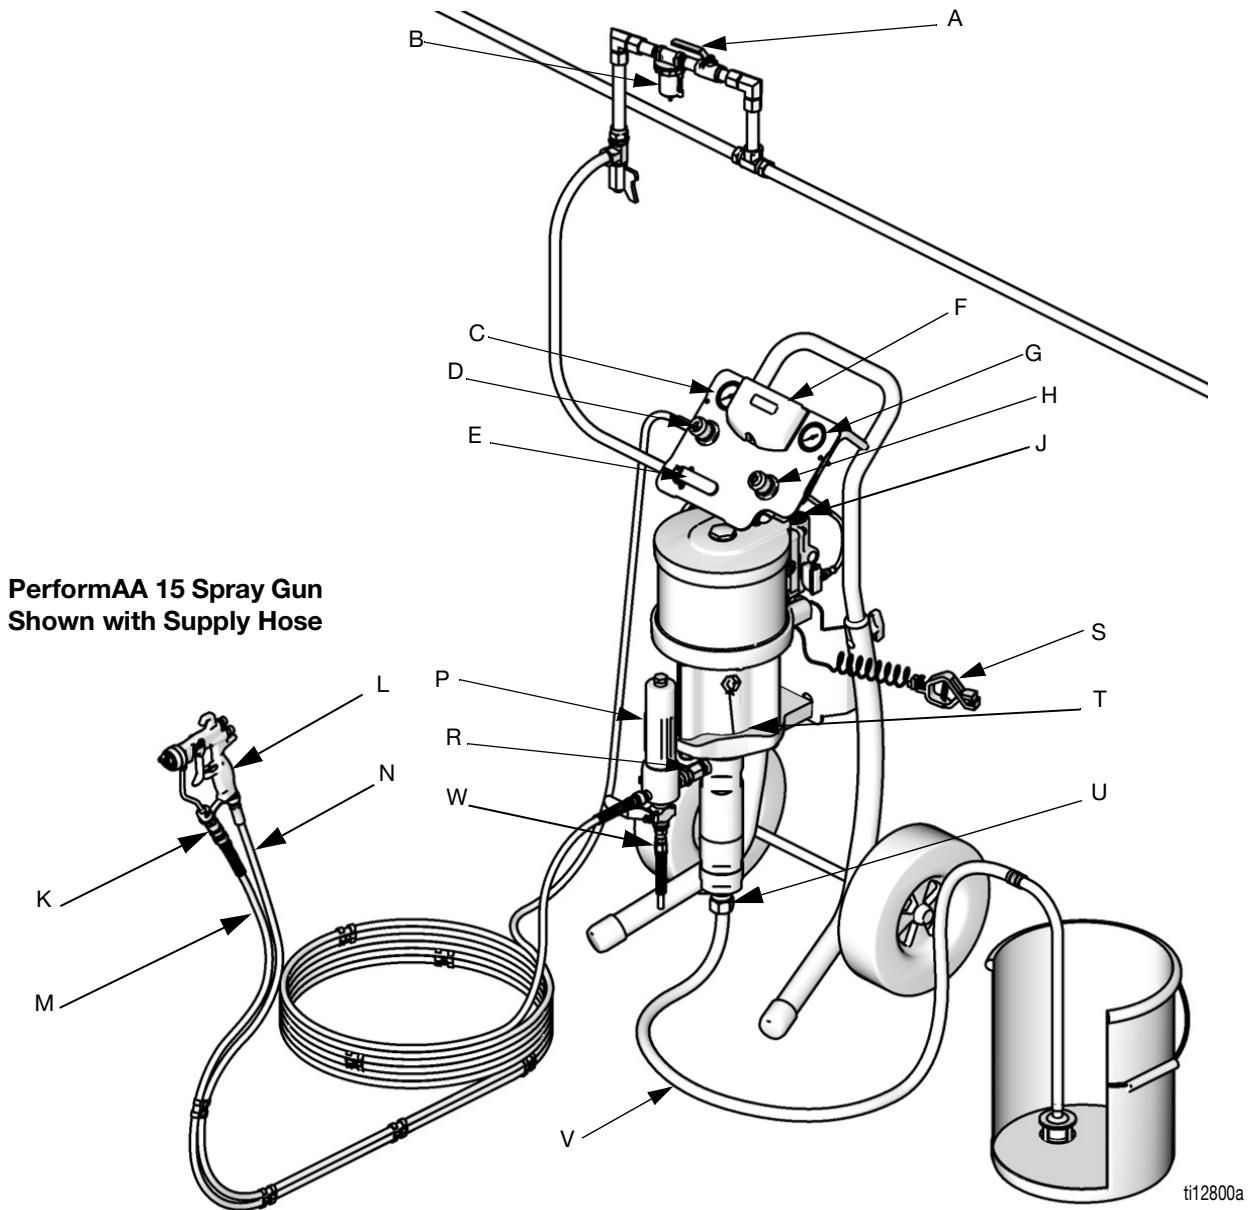

FIG. 1. Typical Installation (Your package may not include all items shown.)
FIG. 1 is only a guide for selecting and installing system components and accessories. Contact your Graco distributor for assistance in designing a system to suit your particular needs.
See FIG. 1. **Components vary by package ordered.** See tables on pages 7 to 16. Your package may include:
Install the following accessories in the order shown in FIG. 1, using adapters as necessary.
1. See FIG. 1. Attach end of blue fluid hose (M) to pump outlet (R) or filter (P) outlet.
2. Attach one end of the air hose (N) to gun air regulator (D).
3. Attach remaining end of the air hose (N) to air inlet at base of gun (L).
4. Attach gun swivel (K) to gun fluid inlet.
5. Attach other end of blue fluid hose (M) to gun swivel (K).
2. See FIG. 1. Turn off the bleed-type master air valve (D).
1. See FIG. 1. Lock gun trigger. Remove tip guard and spray tip from gun (L). Refer to gun manual.
2. Close gun air regulator (D) and pump air regulator (H) by turning knobs counterclockwise reducing pressure to zero. Close bleed-type air valve (E). Also verify that all drain valves are closed.
3. Connect air line to bleed type air valve (D).
6. Hold metal part of gun (L) firmly to side of grounded metal pail, unlock trigger, and hold trigger open.
8. Open bleed-type air valve (E). Slowly turn clockwise pump air regulator (H) increasing pressure until pump starts.